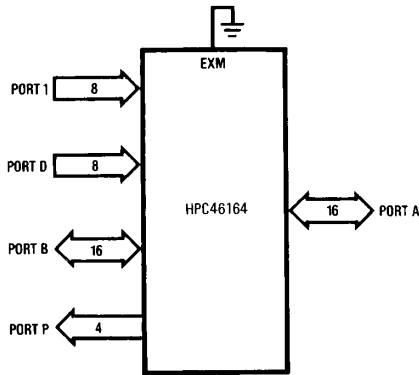

FIGURE 15. Single-Chip Mode
In this mode, the HPC46164 functions as a self-contained microcomputer (see *Figure 15*) with all memory (RAM and ROM) on-chip. It can address internal memory only, consisting of 16k bytes of ROM (C000 to FFFF) and 512 bytes of on-chip RAM and Registers (0000 to 02FF). The "illegal address detection" feature of the WATCHDOG is enabled in the Single-Chip Normal mode and a WATCHDOG Output (WO) will occur if an attempt is made to access addresses that are outside of the on-chip ROM and RAM range of the device. Ports A and B are used for I/O functions and not for addressing external memory. The EXM pin and the EA bit of the PSW register must both be logic "0" to enter the Single-Chip Normal mode.